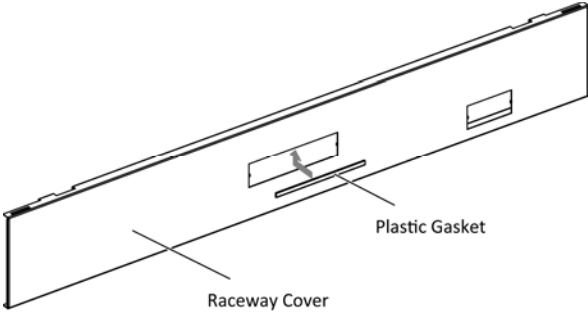

Figure 5
- 6. Insert the plastic gasket on top edge of the outlet cover opening, (Figure 5).